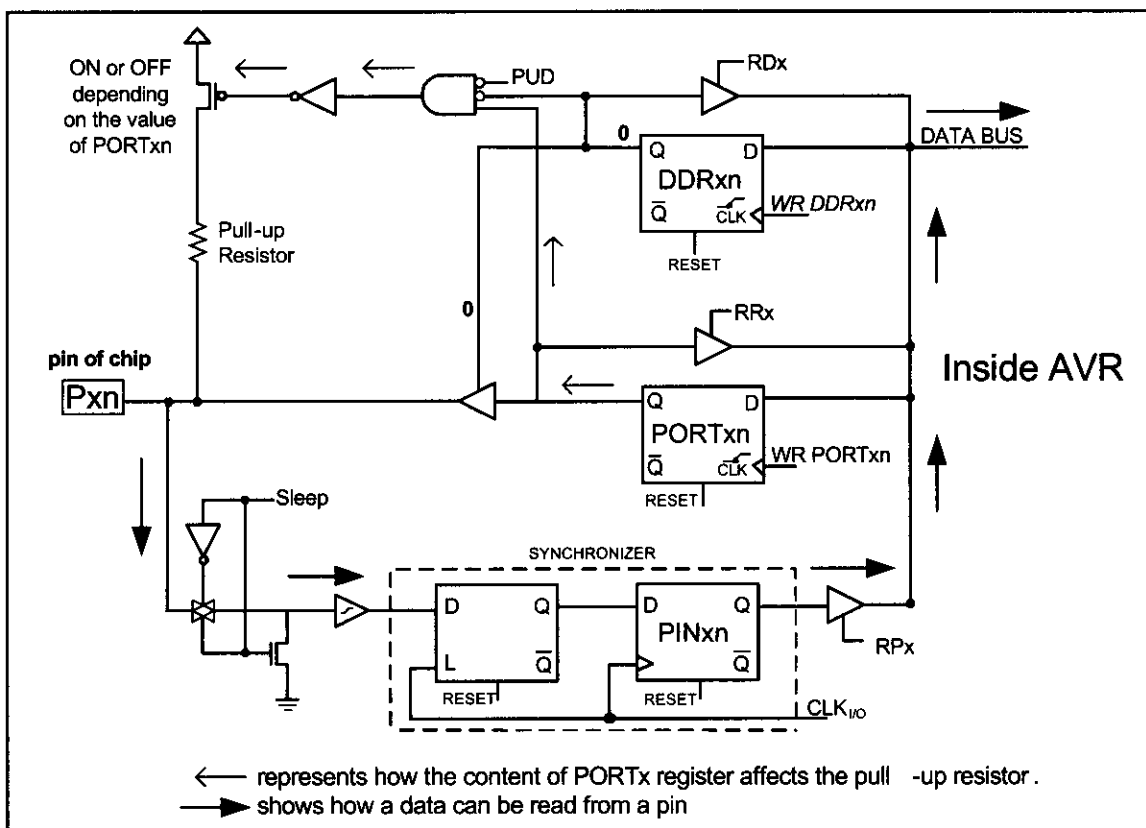

Figure C-11. Inputting (Reading) from a Pin via a PINx Register in the AVR
1. As can be seen from Figure C-11, if we write 0 to the DDRx.n, it will have “LOW” on its Q. This turns off the tri-state buffer.
3. When reading the input port in instructions such as “IN R16, PINB” we are reading the data present at the pin. In other words, it is bringing into the CPU the status of the external pin. This instruction activates the read pin of the buffer and lets data at the pins flow into the CPU’s internal bus. Figure C-11 shows how the input circuit works.